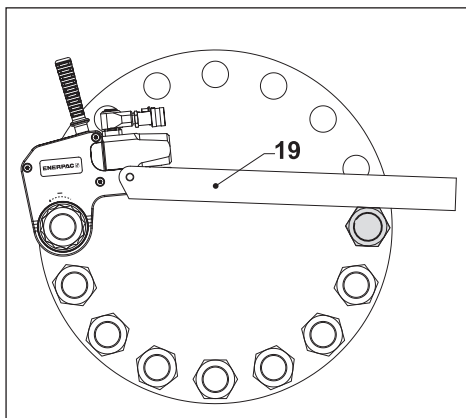
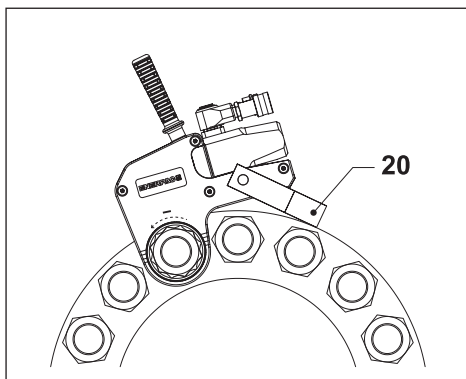

Fig. 11
Fig. 12
4.3.4 Using an Extended Reaction Arm (Fig. 11)
- Position the WTE Series extended reaction arm (19) against a suitable reaction point. The reaction point will counteract the force caused by operating the tool.
4.3.5 Using a Reaction Paddle (Fig. 12)
- Position the WRP Series reaction paddle (20) against a suitable reaction point. The reaction point will counteract the force caused by operating the tool.